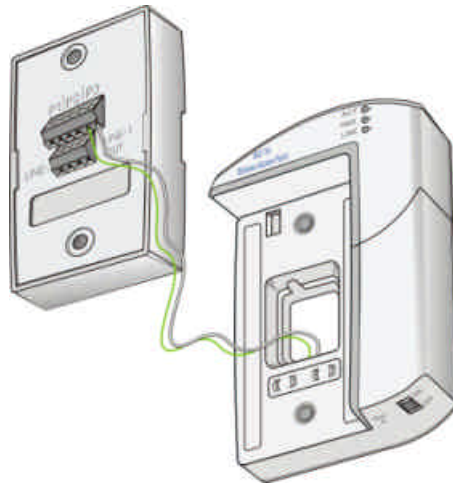

Figure 2.4 Connecting the Wireless Access Point Adapter to the *NetHome* Smart Outlet
5. Connect the wire pair from the Wireless Access Point adapter to terminal block connector P1, P2, or P3 on the rear panel of the *NetHome* Smart Outlet (refer to Figure 2.4). To connect each wire to a terminal, loosen the screw of the terminal, and then insert the wire into the corresponding slot. Fasten the screw to hold the wire in place.